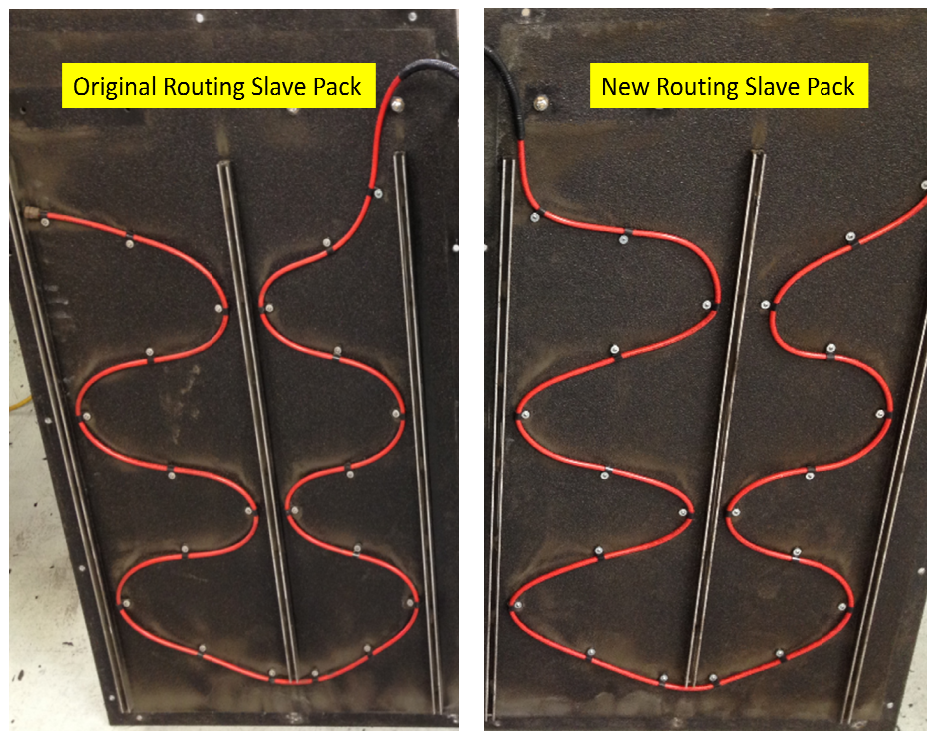

Fig 8 – Fire suppression routing
- j. Route the fire suppression line back on master pack lid using twenty two 1/8" x .31 aluminum rivets (NFL PN 60R02007) and the flat washers you have saved to secure clamps to the lid. Ensure the harness going to the fire bottle exits through the new notch made on the UCAP box. Make sure to follow the same pattern of original route, basically the fire suppression hose end will be on opposite side as original configuration. Place a small amount of silicone (NFI PN 401722) over the rivets to ensure a water tight seal. Fig 8.